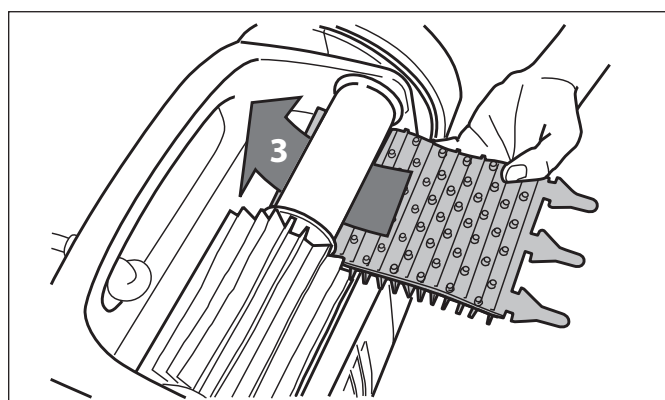

Figure 26. Install the New Brush
- Lift the cleaner to a vertical position so that the handle is up (Figure 26).